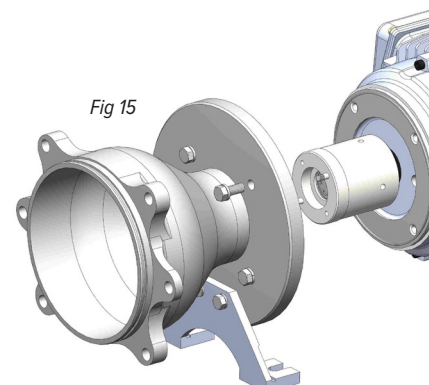

Fig 15
2. Using the appropriate socket, remove the four hex bolts (item 16) that attach the motor adapter to the motor. Carefully slide the motor adapter off the motor face and over top of the shaft adapter. See figure 15.
- a. For pumps with a NEMA motor: Loosen the setscrews (item 27) on the shaft adapter and remove it from the motor shaft.
- b. For pumps with an IEC frame motor - loosen and remove the bolt and washers (items 18, 19 & 20) in the center of the shaft adapter and pull it off the end of the motor shaft.